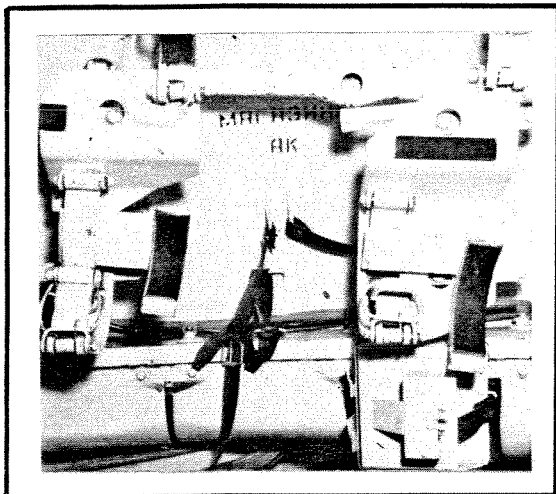
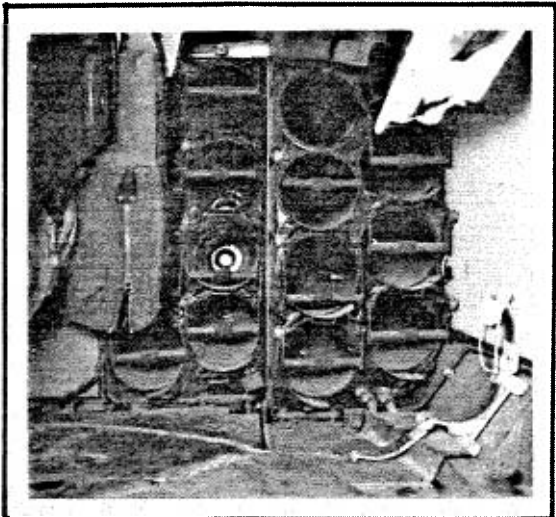
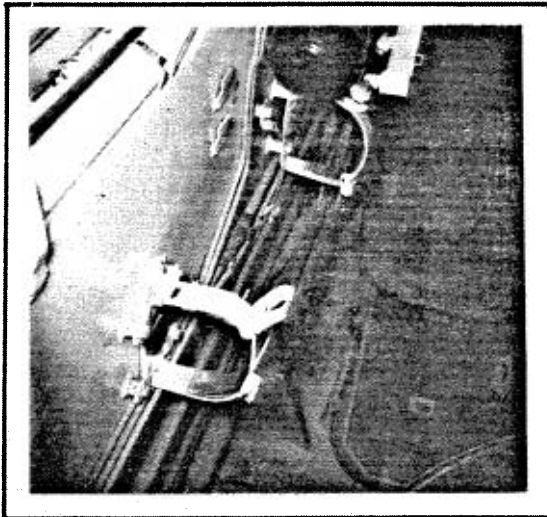

FIG. 3-70. TWO-ROUND READY RACK
FIG. 3-72. 16-ROUND HULL RACK
FIG. 3-73. 1-ROUND RACK BY GUNNER'S FEET
d. Ammunition Racks. There are five separate ammunition racks in the T-62; a two round turret ready rack (Fig. 3-70), a 16 round front hull rack (Fig. 3-72), and two one-round racks (Figs. 3-73, 3-74), along the floor beneath the gunner's footrest. Total basic load is 40 rounds.